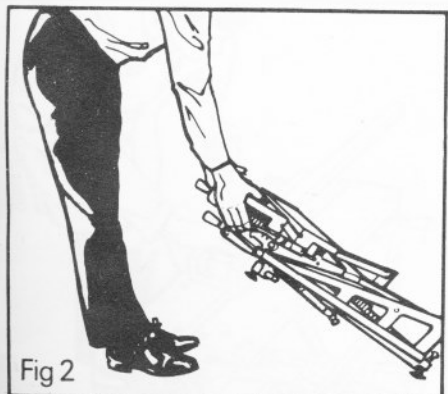

Fig 2
- 2 Lift both retainer latches and tilt the Workmate towards you to an angle of approximately 30°, see Fig. 2 and 2a.